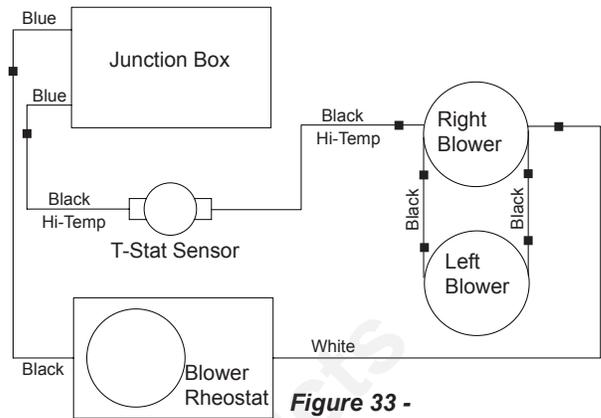

Figure 33 -
3. The junction box cover has a factory installed "romex" style strain relief connector. After connecting the wires, route the wire leads through this connector. Refer to the wiring diagram in *Figure 33*.